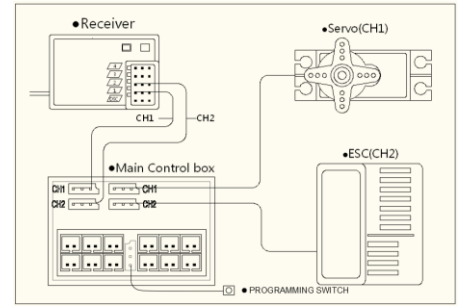

Figure 2
- 7.) There are two servo wire ports on the control box for each Channel. Using one pair of the ports, (Ch.1 and Ch.2) Use the servo extension cables to connect your receiver to the control box. You will match Ch. 1 on the control box to Ch. 1 on the receiver. Same will go for Ch. 2. **(refer to figure 2)**
- 8.) In the other pair of servo wire sockets on the control box, connect your Servo (Ch. 1) to the Ch. 1 port. Next, connect your speed control to the Ch. 2 port. **(refer to figure 2)**